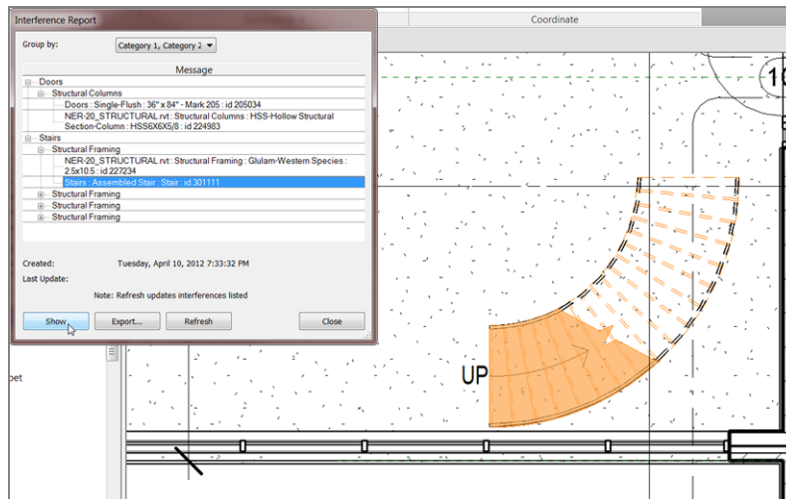

FIGURE 20.17: The offending items are discovered!
8. At the bottom of the dialog box, click the Show button (see Figure 20.17). You may have to go through a couple of good views to find the interference (by clicking the Show button). Get used to this.